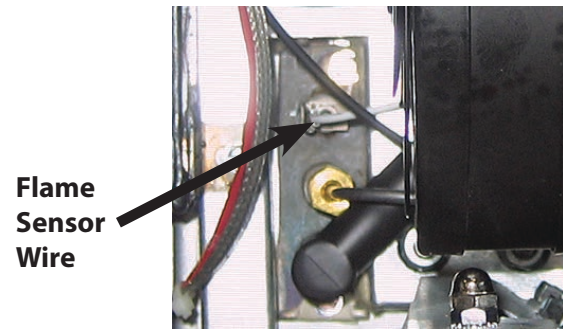
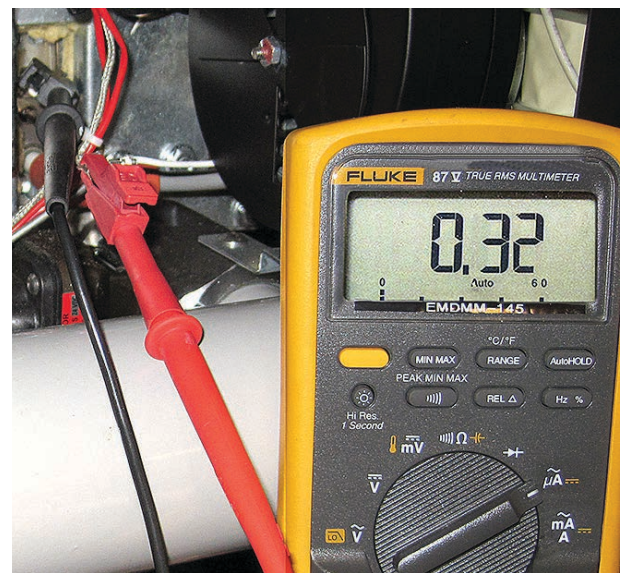

Figure 13
Figure 14
2. Disconnect the white sensing wire from one of the burner igniters (see Figure 13) and connect it to the positive lead of the meter. Connect the negative lead of the meter to the terminal from which the sensing wire was removed (see Figure 14).